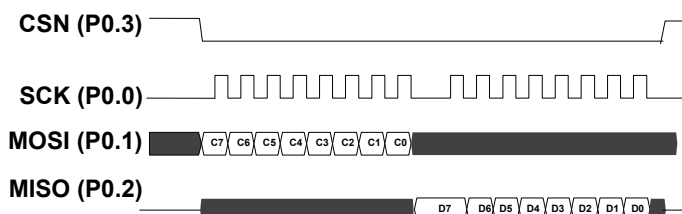
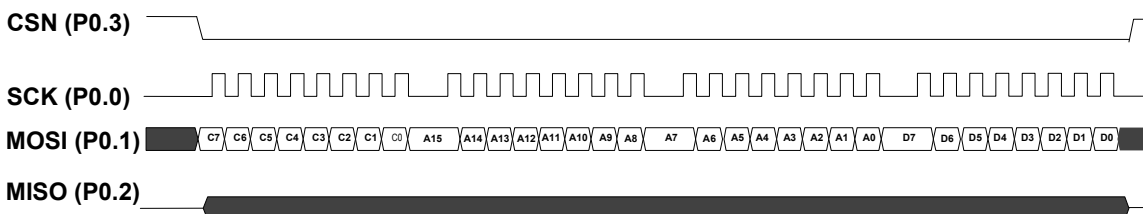

Figure 71. SPI read command without address
Figure 74. SPI flash write operation, shown with 1 databyte
An SPI command always starts with the external master sending a command byte to the flash slave, followed by a variable number of address and data bytes. The number of address and data bytes are specific to each command, as shown in Table 121. on page 145. In Figure 71. to Figure 74. Cn is the SPI command bit, An is the address bit and Dn is the data bit (note: MSBit in each byte first). After CSN is deactivated, a flash write or erase command requires the chip to do the flash programming or erase, and this will take some time to complete therefore, it is advised not to issue a new command until the specified amount of time has elapsed. Alternatively, you can repeatedly issue RDSR commands until the `FSR.RDYN` bit reads back as 0.
The SPI command RDSR reads out the content of the flash status register FSR, and consists of 1-command byte and 1-data byte as shown in Figure 71. on page 146. By keeping the CSN line active after the first data byte, FSR will be repeatedly re-read until CSN is set inactive.
3. The `PROGRAM` command is sent on the MOSI line followed by the two-byte address (address of the first byte) and the data to be programmed/ written, as shown in Figure 74. on page 146.
The SPI command `RDFPCR` reads out the content of the flash project configuration register `FPCR`, and consists of 1 command byte and 1 data byte as shown in Figure 71. on page 146.